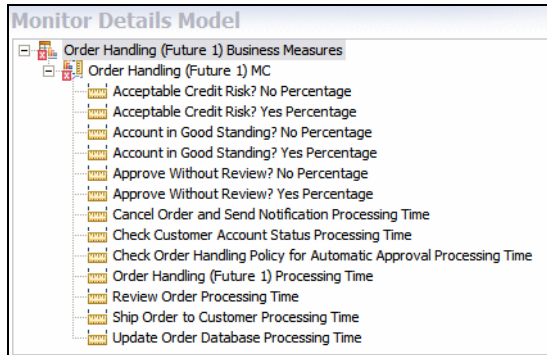

Figure 12-4 Monitor Details Model: imported
- ▶ The Monitor Details Model tab shows the duration and processing time measurements that the Monitor should feed back to the Modeler in the round-trip scenario (Figure 12-4).